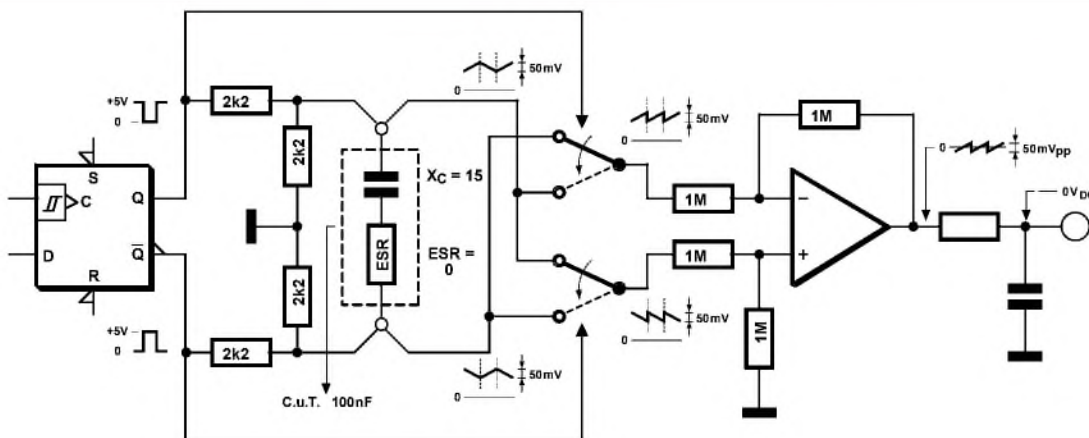

FIGURE 3: Second hypothetical test: C.U.T. is a 0.1μF capacitor with an ESR of 0Ω.
*Figure 3* shows an example in which the C.U.T. is  $0.1\mu\text{F}$  cap whose ESR is  $0\Omega$ . As mentioned, we use a relatively high frequency to make the reactance negligible while enabling even the smallest electrolytics such as  $0.1\mu\text{F}$  to be tested. For this it is necessary to re-